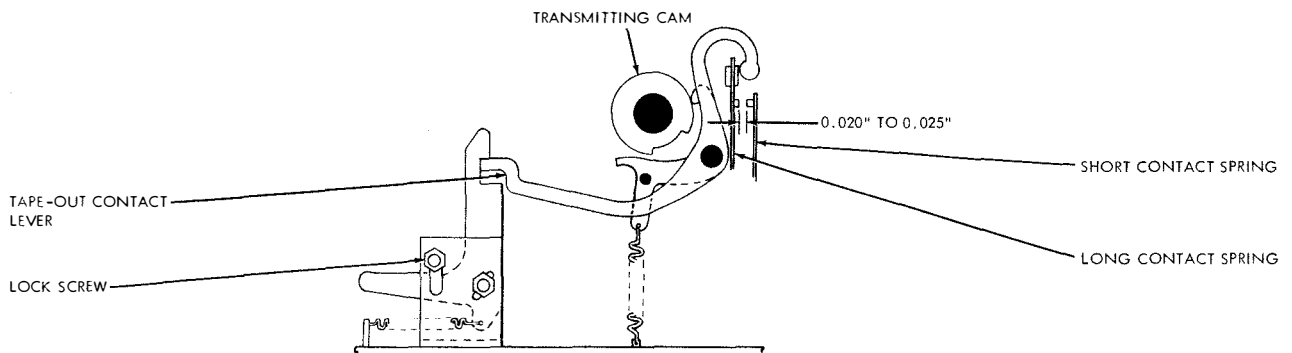

Figure 7-87. Tape-out Contact Gap
(18) TAPE-OUT CONTACT GAP. (See figure 7-87.)